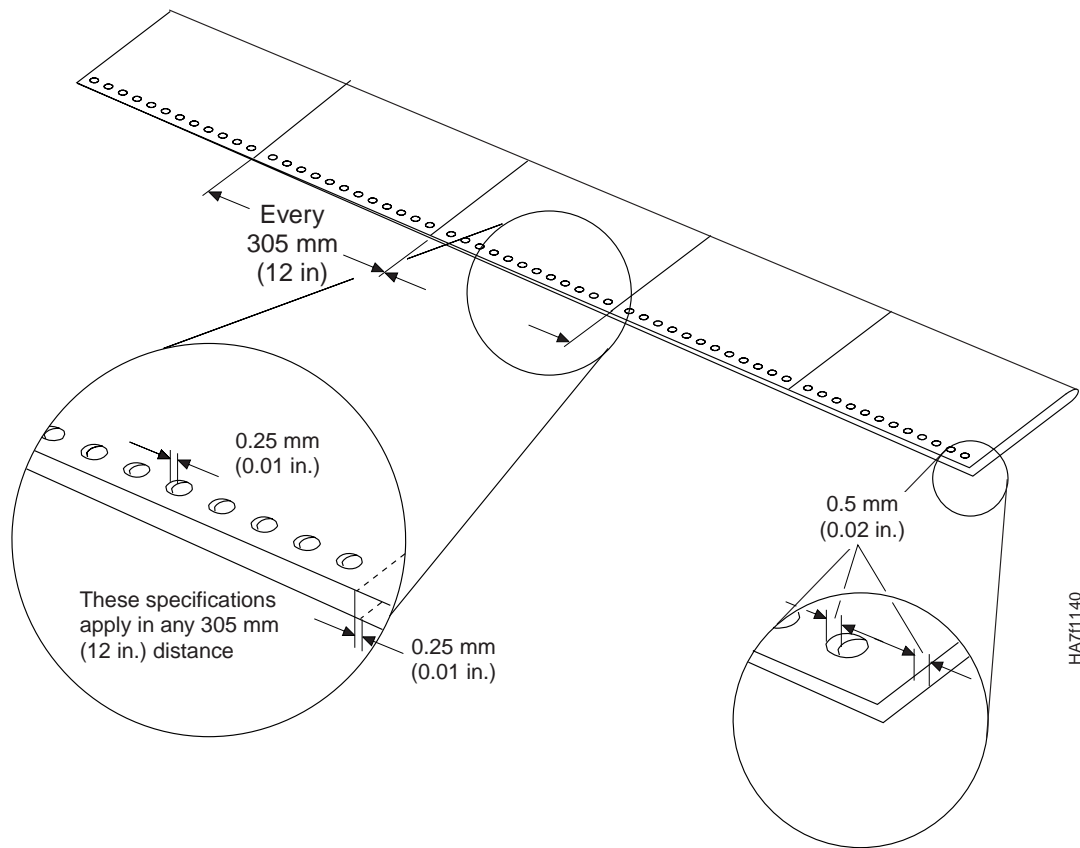

Figure 10. Perforation Accuracy — Edge to Edge
- b. Refer to Figure 10 on page 35 and fold the sheets lengthwise. Measure the page perforations and tractor holes of the two edges as shown.